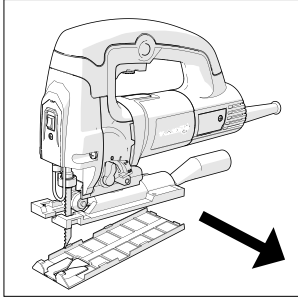

Fig 6
- Unclip the plastic footplate shoe and store safely for future installation. (**Fig. 6**)